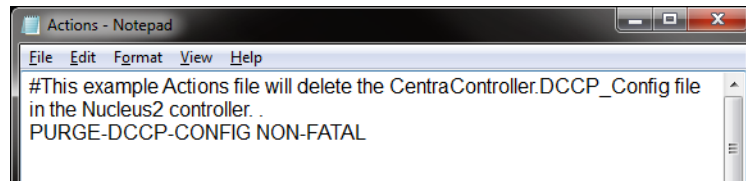

Figure 95 Example Actions.txt to Delete the Nucleus2 CentraController.DCCP_Config File
- **Actions.txt** - Edit the Acions.txt file so that the only action is PURGE-DCCP-CONFIG (see Figure 95).